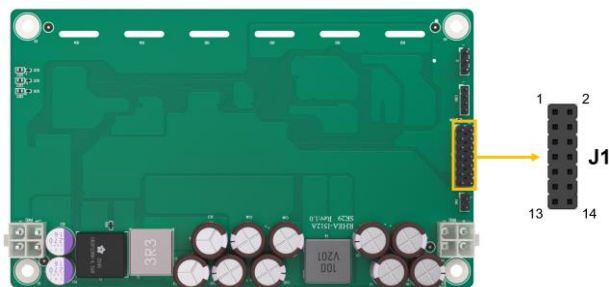

Figure 3-7: Firmware Flash Connector Location
- CN Location:** See **Figure 3-7**